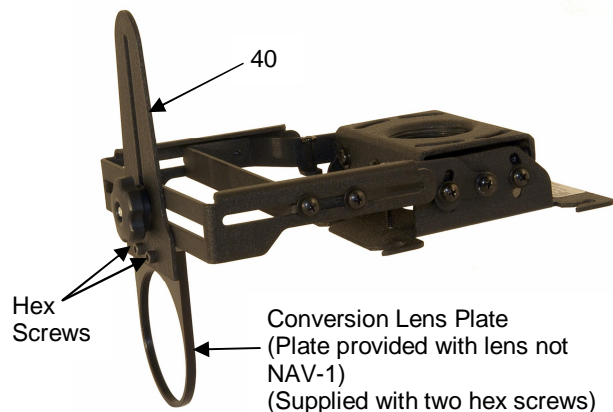

**Figure 6. Install Angle Adjustment screws**
8. Find two 1-1/4" Phillips screws (70) in the parts bag.
**NOTE:** Stop threading each screw (70) when the end protrudes through the bracket hole approximately 1/4" as shown in Figure 6.
9. Install two screws (70) in the threaded tabs on the NAV-1. See Figure 6.